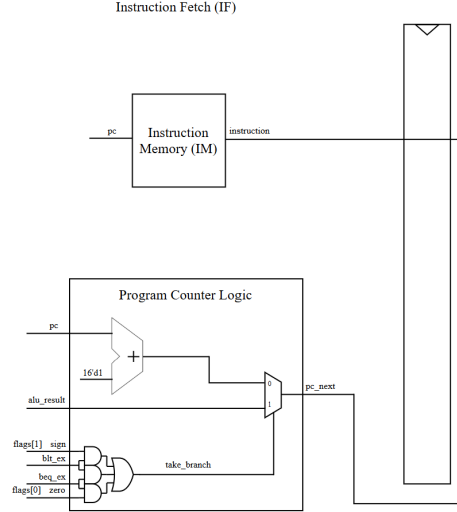

Figure 2: The Instruction Fetch (IF) stage of the architecture
Instruction Fetch (IF) is a simple stage with two components: *Instruction Memory (IM)* and *Program Counter Logic*. The datapath of the *IF* stage is shown in Figure 2.